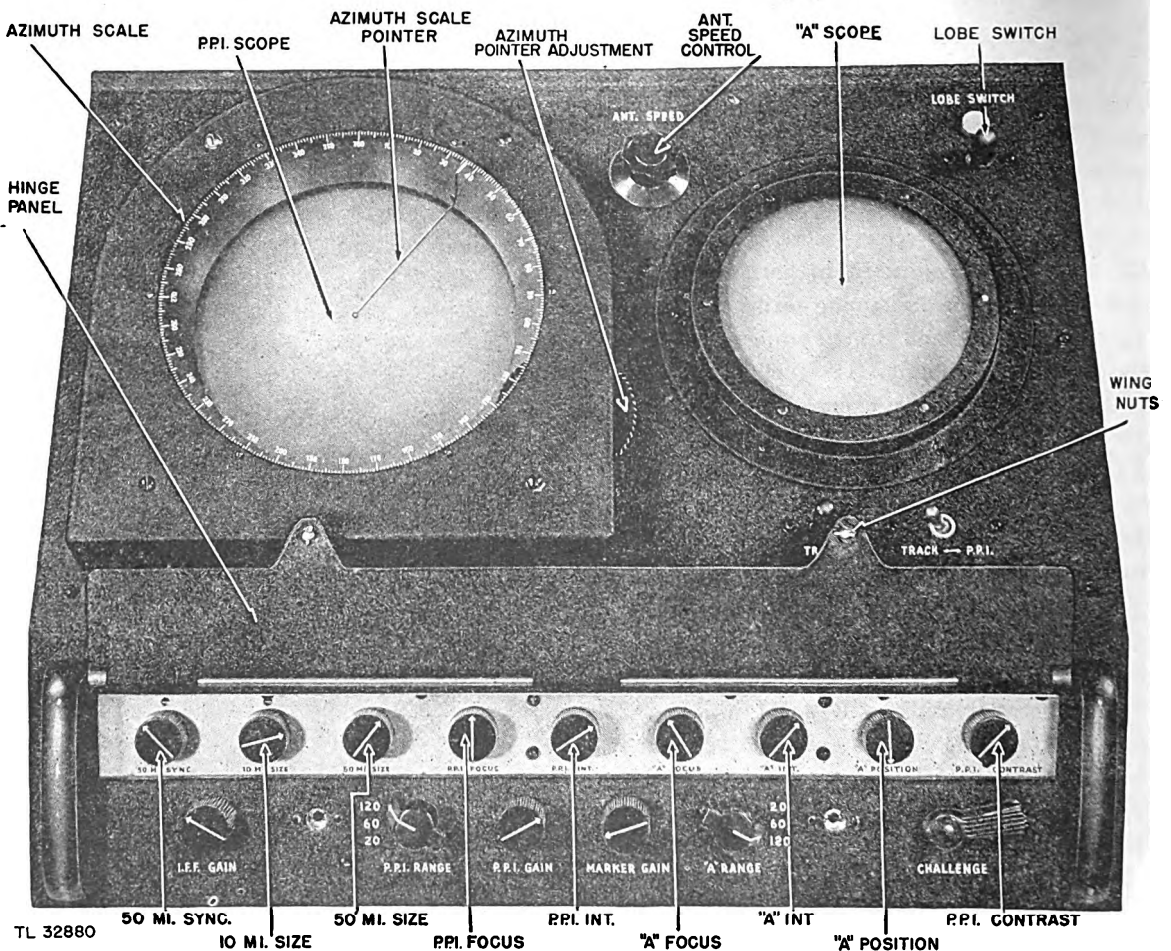

Figure 29. Indicator chassis, panel open.
21. FUNCTION. Radio Set AN/TPS-3 employs two indicating devices, an "A" scope, and a PPI scope (fig. 29). These cathode-ray tubes are used to indicate visually the range and azimuth of targets within 100 miles of the equipment. Although both scopes may be used to obtain range and azimuth, the "A" scope is used most effectively for range determination, while azimuth can most easily be determined on the PPI scope. The "A" scope may also be used as a monitoring or tuning device.
(a) Electron emission from the cathode is controlled by the potential difference between grid and cathode. Making the cathode of the "A" scope more or less negative by manual operation of the "A" INT. control (fig. 29), (potentiometer R58) increases or decreases the density of the electron stream with consequent increase or decrease in the intensity or brightness of the spot on the screen.
(2) **FOCUSING.** The beam of electrons streams through the electrostatic lens formed by the difference in potential between the grounded accelerating anode and the more negative focusing anode. The warping of the electrostatic flux lines between these two anodes, when correct, will form the electron stream into a narrow beam focused at a point on the screen. The lens curvature is controlled by the "A" FOCUS control, potentiometer R60 (fig. 29).
(3) DEFLECTION PLATES.
(1) INTENSITY. The brightness of the spot on the screen can be varied by changing the potential difference between cathode and grid by the PPI INT. control (fig. 29), potentiometer.
(2) FOCUSING. The PPI FOCUS control (fig. 29), potentiometer, varies the amount of current through the focus coil, and thus serves as a focusing adjustment. The coil is mounted in a yoke located around the neck of the tube. Changing the current through the coil varies the strength of the magnetic lines of force, thereby correcting for the lens curvature. The control should be adjusted until the electron beam is focused to a point on the screen.
(3) DEFLECTION COILS.